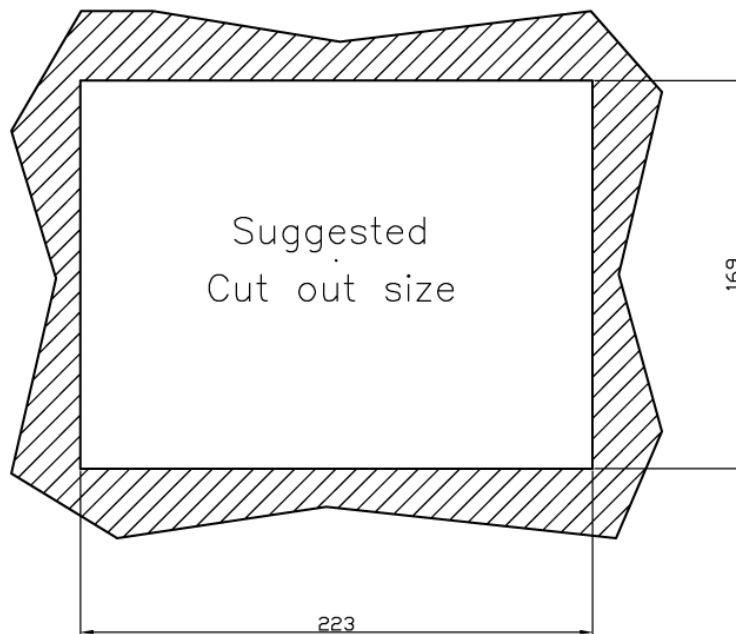

Figure 2-13: AFL-08B-N270 Cutout Dimensions (units in mm)
- Step 2:** Cut out a section from the panel that corresponds to the rear panel dimensions of the panel PC. Take care that the panel section that is cut out is smaller than the overall size of the metal frame that surrounds the panel PC but just large enough for the rear panel of the panel PC to fit through (**Figure 2-13**).